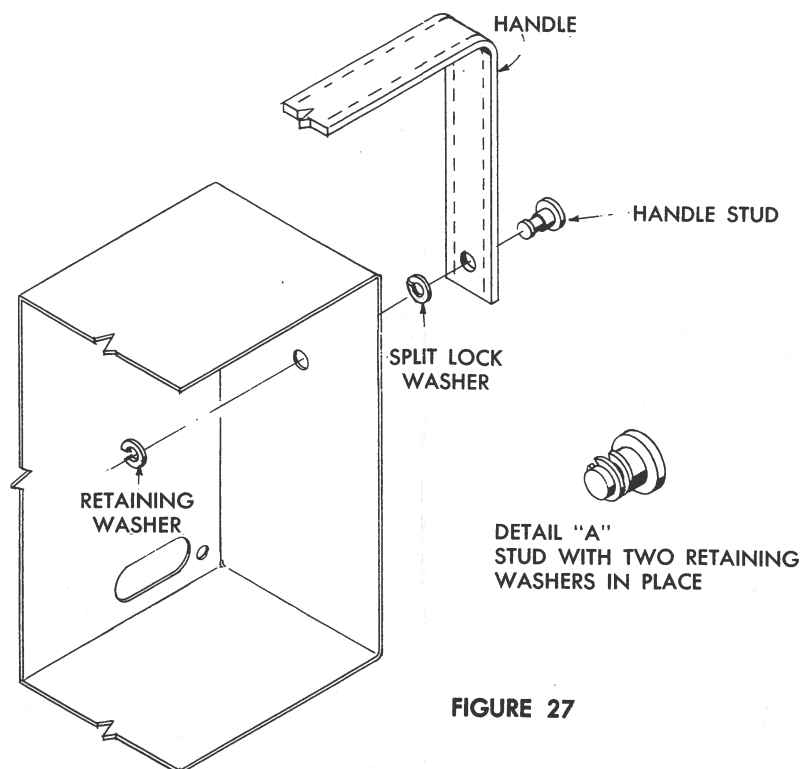

FIGURE 27
Figures 27 and 28.
1. ☐ Assemble the handle to the case as shown in Figure 27. Insert the studs through the holes on each side of the handle, place a split-type lockwasher on the shaft of each stud, then insert the studs through the holes in the case. Inside the case, snap a "C" washer on the slotted section of each stud, then crimp the washers together slightly to prevent them from coming off.
7. ☐ The WV-98C(K) Senior VoltOhmyst is now completely assembled. For information concerning the operation, applications, circuit description, and maintenance of the instrument, read the Instruction Manual supplied with the kit.